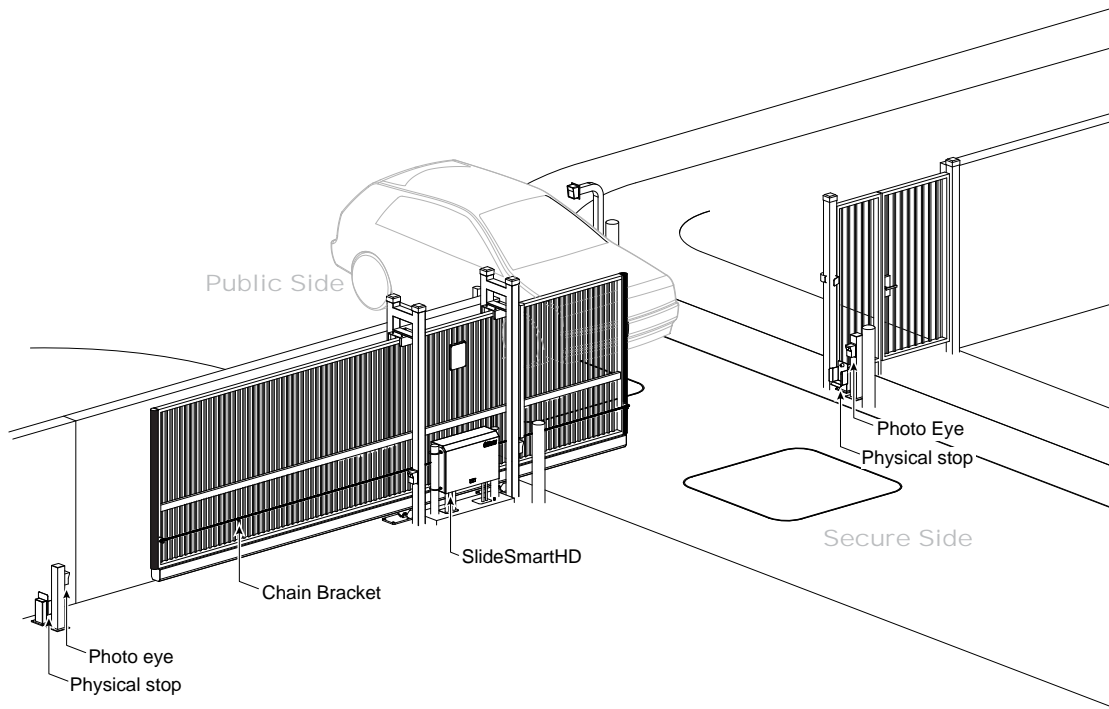
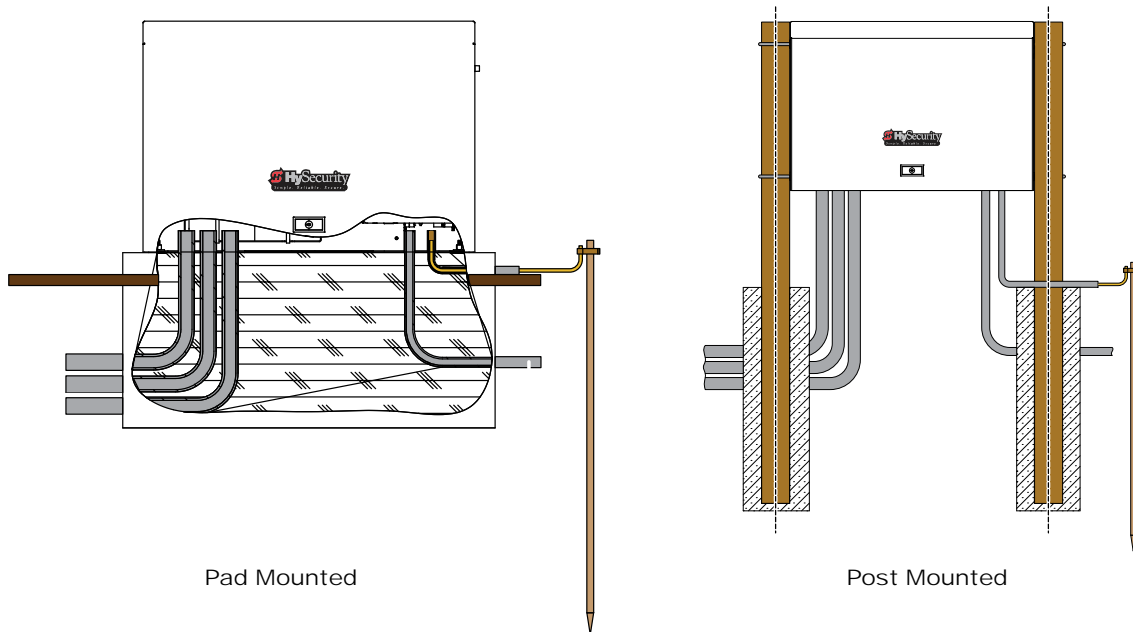
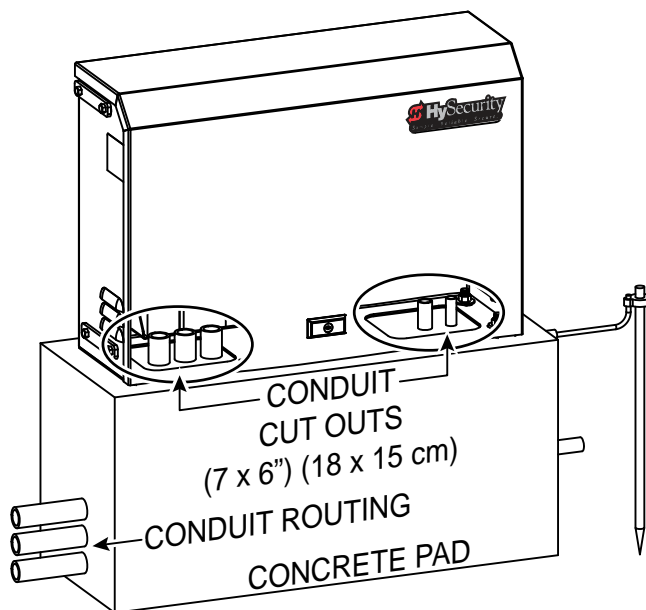
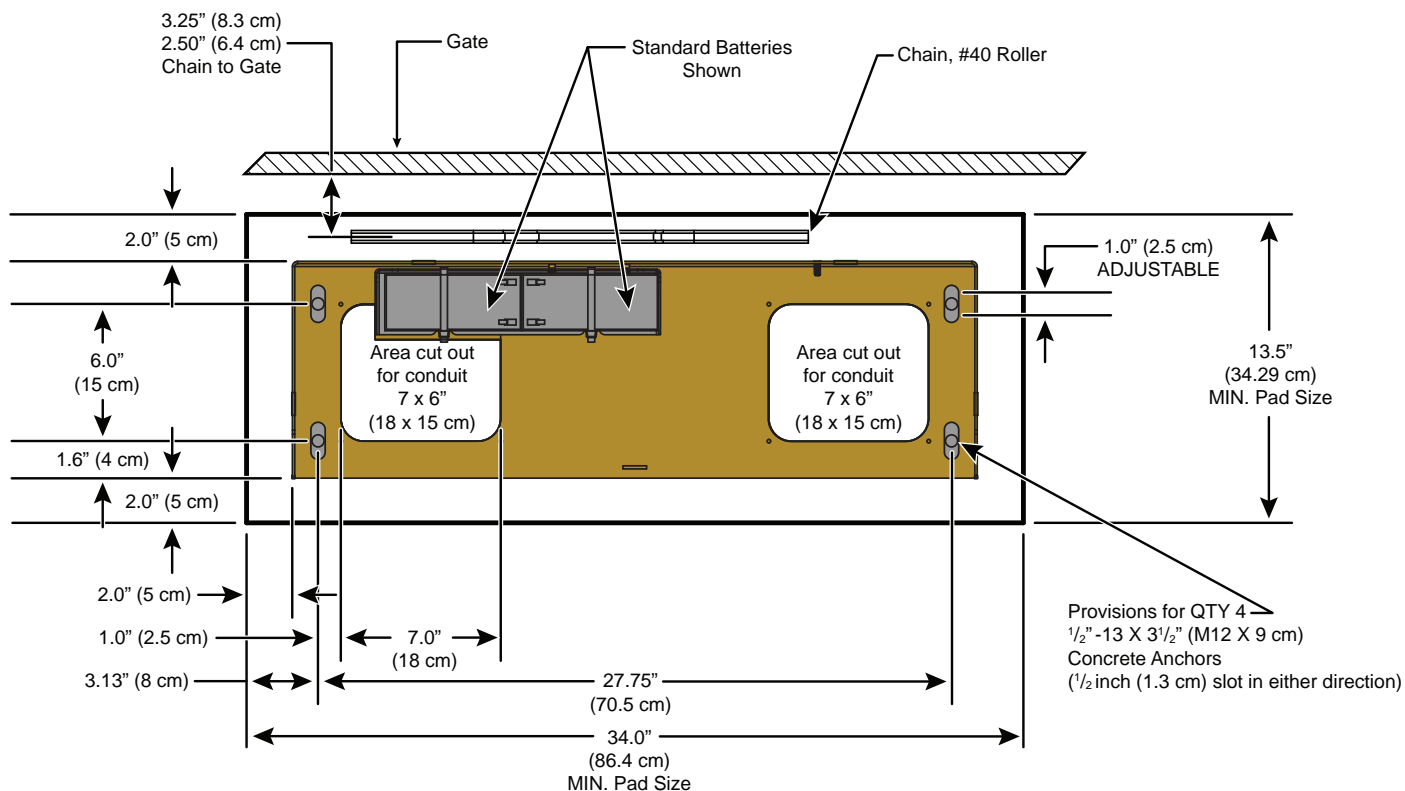

Figure 4. Front Installation
Figure 5. Pad and Post Mount
Figure 8. Pad Mounting
Figure 9. Concrete Pad Dimensions and Overhead Gate View
The most common and cost efficient type of installation is the front installation. See Figure 4 and Figure 5.
1. Place the operator on the concrete pad base to best suit the conduit area cut outs as shown in Figure 8 and Figure 9. Use the operator or the template provided on the packaging box as a template and center it on the pad. The chain path must be parallel with the gate.
2. Assess any limitations in the chain path (i.e. gate support posts). Adjust the operator's location as required. Mark the mounting locations based on gate, operator, and chain requirements. See Figure 8 and Figure 9.
3. Route conduits through concrete pad base and SlideSmart HD operator. See Figure 5 and Figure 8.